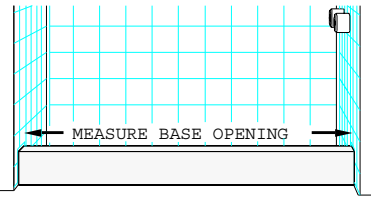

figure 1
1. Measure the base opening along center of shower curb as shown in figure 1, then trim Sill (A) to 3/16" less than measurement obtained.